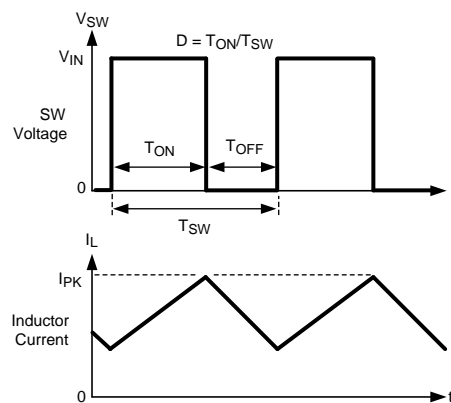

Figure 33. Typical Waveforms
The LM26420 is a constant frequency dual PWM buck synchronous regulator IC that delivers two 2.0A load currents. The regulator has a preset switching frequency of 2.2MHz or 550kHz. This high frequency allows the LM26420 to operate with small surface mount capacitors and inductors, resulting in a DC/DC converter that requires a minimum amount of board space. The LM26420 is internally compensated, so it is simple to use and requires few external components. The LM26420 uses current-mode control to regulate the output voltage. The following operating description of the LM26420 will refer to the Simplified Block Diagram, which depicts the functional blocks for one of the two channels, and to the waveforms in Figure 33. The LM26420 supplies a regulated output voltage by switching the internal PMOS and NMOS switches at constant frequency and variable duty cycle. A switching cycle begins at the falling edge of the reset pulse generated by the internal clock. When this pulse goes low, the output control logic turns on the internal PMOS control switch (TOP Switch). During this on-time, the SW pin voltage (V_{SW}) swings up to approximately V_{IN} , and the inductor current (I_L) increases with a linear slope. I_L is measured by the current sense amplifier, which generates an output proportional to the switch current. The sense signal is summed with the regulator's corrective ramp and compared to the error amplifier's output, which is proportional to the difference between the feedback voltage and V_{REF} . When the PWM comparator output goes high, the TOP Switch turns off and the NMOS switch (BOTTOM Switch) turns on after a short delay, which is controlled by the Dead-Time-Control Logic, until the next switching cycle begins. During the top switch off-time, inductor current discharges through the BOTTOM Switch, which forces the SW pin to swing to ground. The regulator loop adjusts the duty cycle (D) to maintain a constant output voltage.